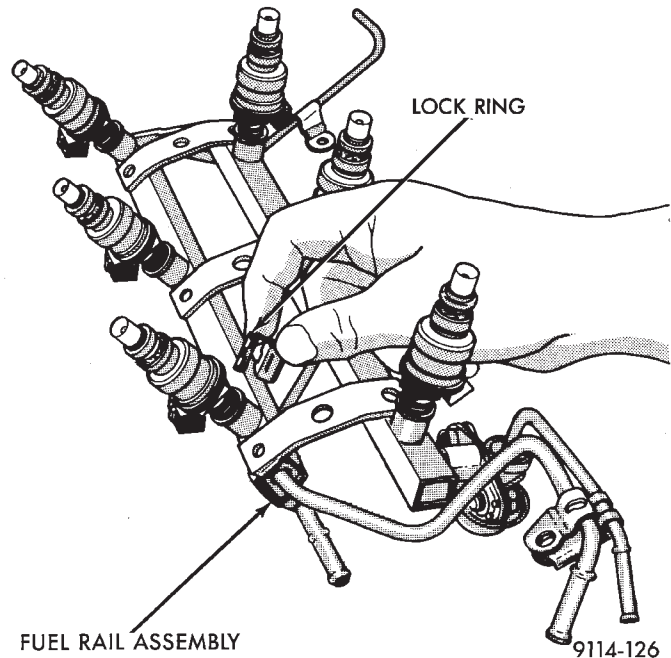

Fig. 15 Fuel Injector and Rail
- (1) Perform the Fuel Pressure Release Procedure.
- (2) Disconnect negative cable from battery.
- (3) Label each injector connector with its cylinder number. Disconnect electrical connector from injector.
- (4) Position fuel rail assembly so that the fuel injectors are easily accessible.
- (5) Remove injector clip from fuel rail and injector (Fig. 15).
(3) Install injector clip by sliding open end into **top slot** of the injector. The edge of the receiver cup will slide into the side slots of clip (Fig. 15).
(4) Repeat steps for remaining injectors.
(5) Install fuel rail assembly. Refer to Fuel Rail Assembly Installation in this section.
(6) Connect electrical connectors to injectors in correct order.
(7) Connect negative battery cable.